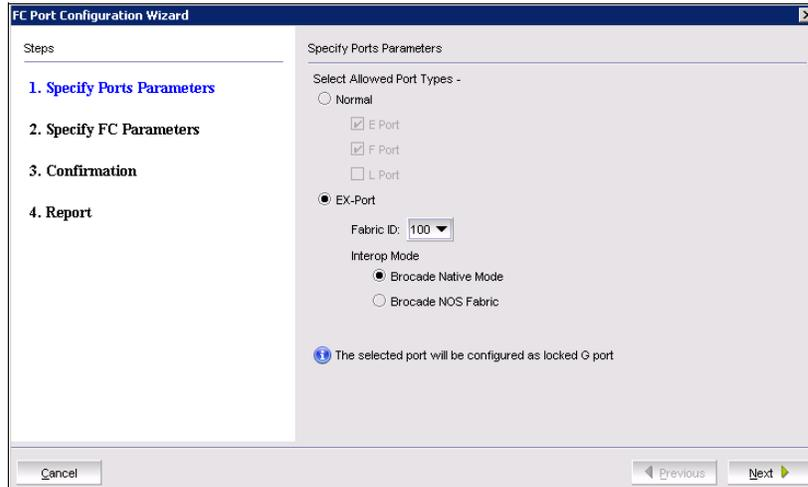

Figure 6-43 Select EX port and fabric ID
- c. To specify port parameters, select EX-Port and assign fabric ID for the connection of the edge fabric. Here we assign fabric ID 100 for it (Figure 6-43).